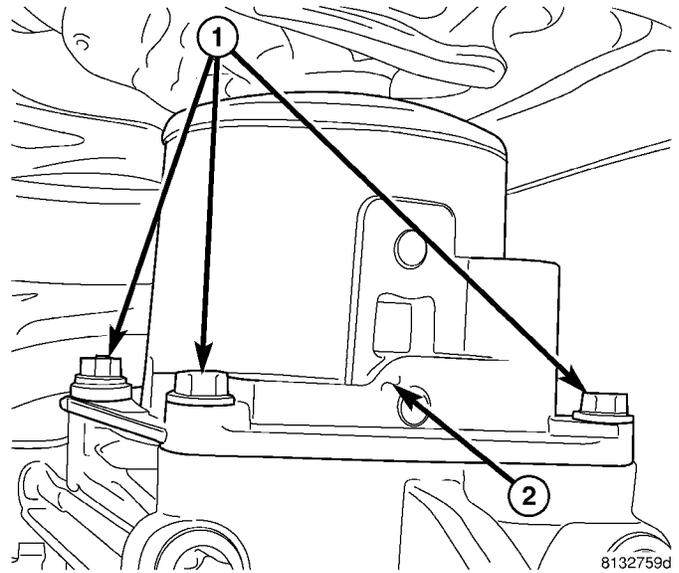

Fig. 120 SHIFT LEVER
(4) Clean shift tower and mating surface then apply Mopar® Gasket Maker to shift tower.
(5) Install shift tower (2) and tighten bolts (1) to 10 N·m (7 ft. lbs.) (Fig. 120).